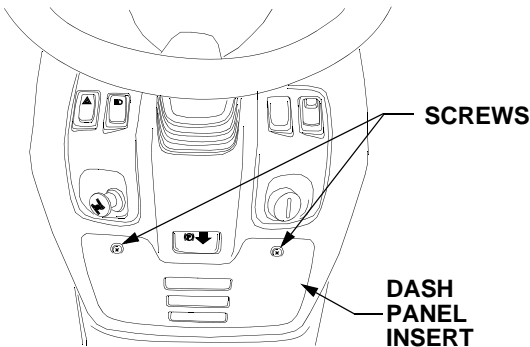

Figure 38
The fuse center is located on the inside *right* of the dash panel. To access the fuse center, remove the dash panel insert by removing the two screws. See Figure 38.
- Remove the dash panel insert by removing the two screws. Refer to Figure 38.